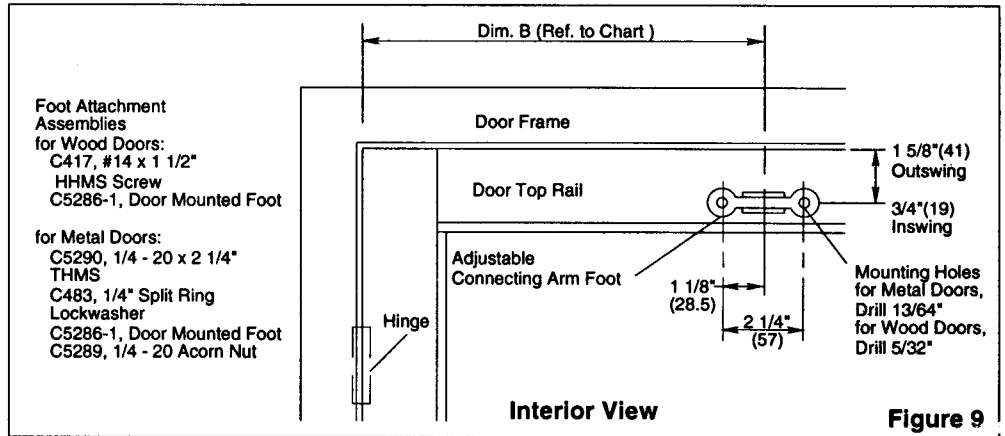
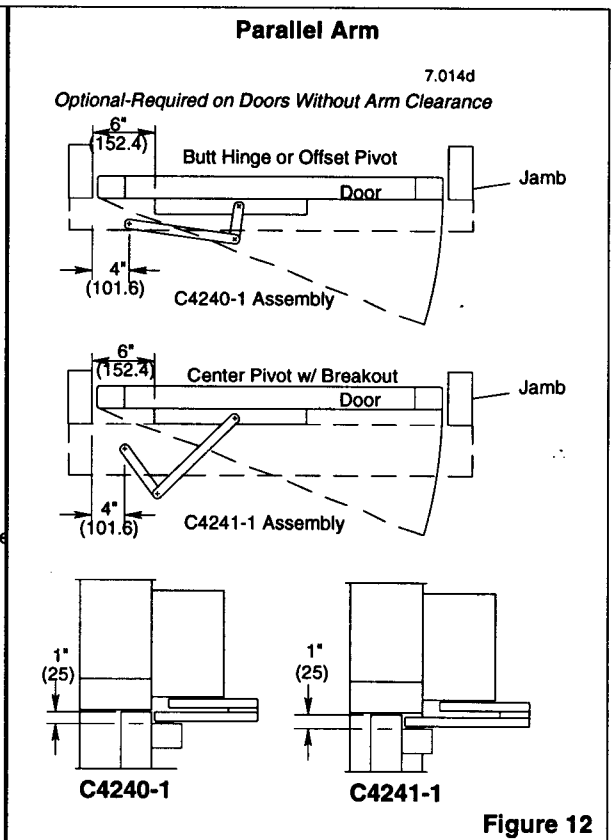

Figure 9
Figure 12
- Install foot in accordance with Figure 9 at dimension "B". Install connecting arm to foot. See Figure 12 for parallel arm.